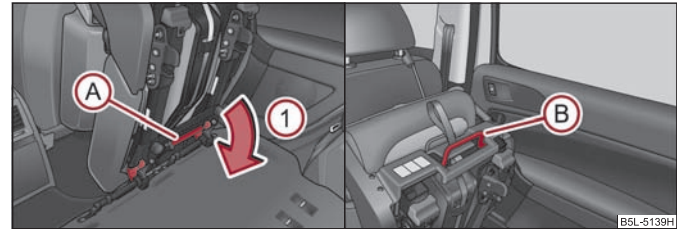

Fig. 63 Unlocking the folded forward seat / carrying handles on the seat cushion
- Unlock the folded forward seat by pressing the seat locks in direction of arrow (1) ⇒ fig. 63.
- Remove the seat by way of the carrying handles on the seat cushion (A) ⇒ fig. 63 and (B).
- Fold the outer seat forwards ⇒ page 74 and lock it ⇒ page 75, fig. 63.